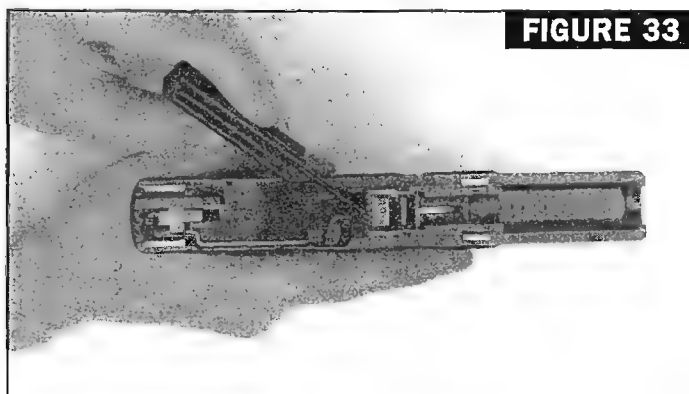

FIGURE 33
- Use a pin punch or a screwdriver to raise the locking block (Fig. 33).